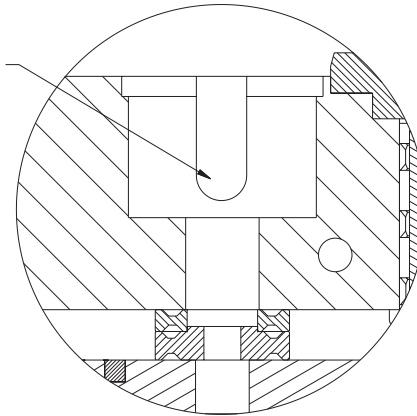

Fig 34.1
7. It may be necessary, in some cases, to machine the slot for feed lines right through the clamping plate to allow for ease of fitting from the back of the tool. Fig 34.1